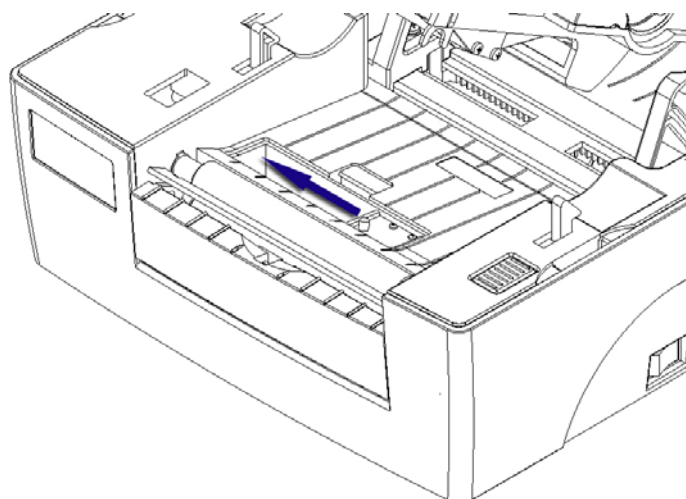

Figure 3.2.2
- 3) Act on sensor latch to move the sensor to the required position (For example: below the black mark) (see figure 3.2.2);